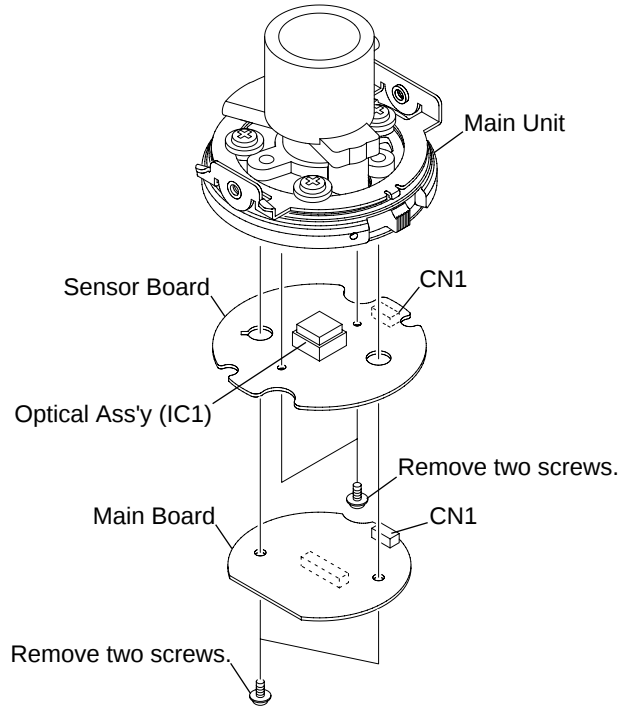

Fig. 2-5
- Referring to Fig. 2-5, remove two screws that secure the Main Board, disconnect the Connector CN1 on the Main Board and remove the Main Board from the Main Unit with the Sensor Board in order to service the Main Board.